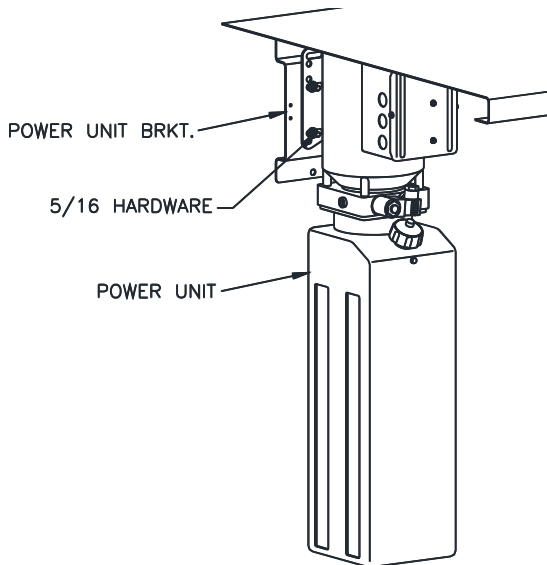

Fig. 10 – Power Unit Mounting
17. Attach the Power Unit to the Power Unit Bracket using the four (4) 5/16 x 1/2" Lg. flanged bolts and nuts provided, **Fig 10**.